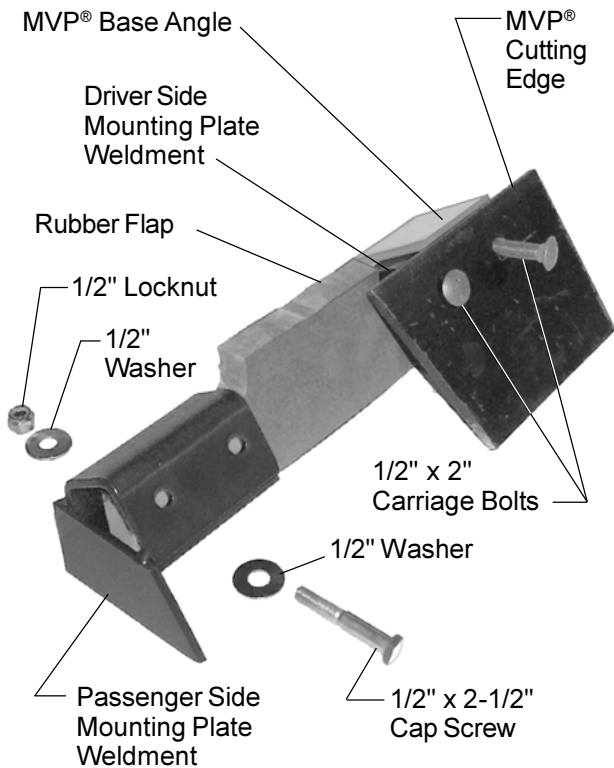

Figure 3
1. Using four 1/2" x 2" carriage bolts and 1/2" locknuts, install one mounting plate weldment to the back of each cutting edge. (See Figure 3.)